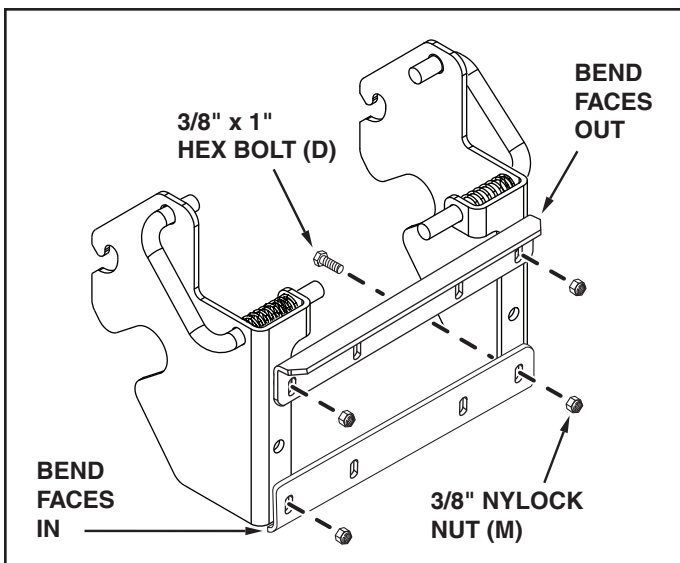

FIGURE 11
STEP 1: (SEE FIGURE 11)
- Attach an angle support bracket to the top holes in the quick attach brackets using two 3/8" x 1" hex bolts (D) and 3/8" nylock nuts (M). **Do not tighten**
- Attach an angle support bracket to the bottom holes in the quick attach brackets using two 3/8" x 1" hex bolts (D) and 3/8" nylock nuts (M). **Do not tighten.**